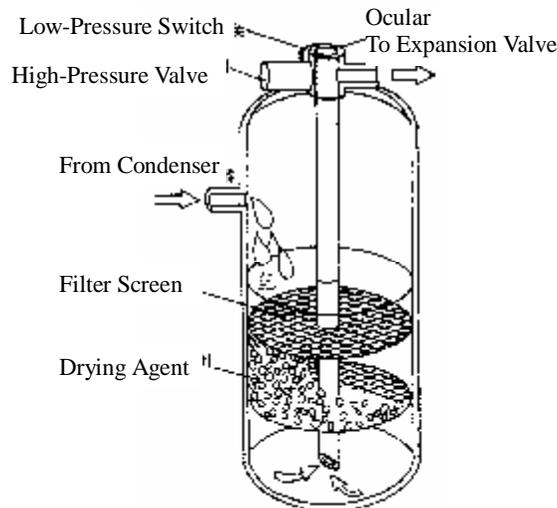

Figure 11-18 Reservoir dryer
① R134a refrigerant has a poor water-holding capacity and ice crystal can easily form in expansion valve if there is moisture in the system. Crystal would restrain the flow of refrigerant. The moisture in the system will also have chemical effect with the refrigerant, forming the highly corrosive hydrochloric acid that could damage the steel parts in the system. The reservoir dryer is therefore used to absorb the moisture in the refrigerant. (See Figure 11-18).
② The volume of refrigerant cycling in the refrigeration system varies according to the heat load, the reservoir dryer contains and supplies needed refrigerant timely to the cycling system, and compensates the minor-leakage as well.
③ The filtering devices in the reservoir dryer can clean out impurities and dirt in the system all the time, preventing them from entering into the refrigerant and blocking the expansion valve.